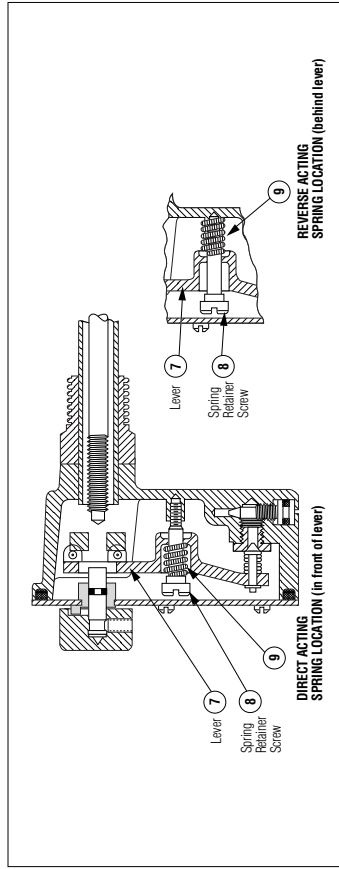

Figure 6.
(See Figures 6 and 7)
3. Install screws (3) and gaskets (2) on water-operated controller.
4. Install parts (8) and (9). (Note relationship for direct and reverse acting. See Figure 6.)
5. Back out adjustment screw (5) until collar (19) touches the pivots on the lever (7).
6. Install cover plate (2).
7. Install adjustment knob with set screw (3). The knob indicator (white line on side of knob) should be opposite the dial marking corresponding to the room temperature. Tighten the knob set screw very firmly.